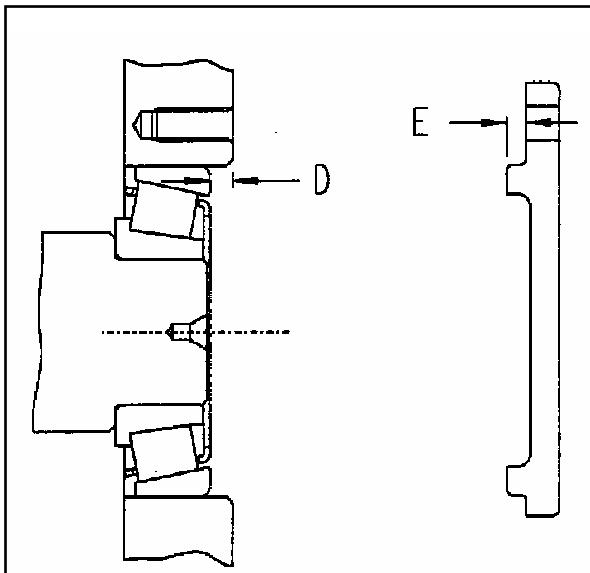

Figure B24 - Dimensions Required for Shimming Gear Shaft Bearings
10. Position shims in casing half (item 4) and fit remaining cup of differential bearing on top of shims. Ensure bearing is fully abutted.
11. Suitably support the axle casing half (item 3) such that the joint face is uppermost.
12. Position differential assembly (item 7), intermediate shaft assembly (item 6) and input shaft assembly (item 5) into the casing half, locating on their appropriate bearing cups.
13. Apply jointing compound (Loctite 574) to the joint face of the casing half. Ensure location dowels (item 34) are fitted.
15. Close casing halves using setscrews (item 1) with washers (item 2) and tighten to 4.7 Kgm.
16. Fit cups of input and intermediate shaft bearings (items 12 & 15) ensuring they are aligned with their already assembled cones and are fully abutted.
17. Determine shim pack thickness for both input shaft and intermediate shaft bearings by ascertaining dimensions D & E (see figure B24) for each position.
18. Calculate the required shim pack thickness (F) = (D - E) for each position. Select actual shims to give a pack thickness between (F) and (F - 0.05mm). This gives optimum clearances for bearings.
19. Position shims (item 11) on bearing cups. Apply sealing compound to mating face and fit bearing covers (item 10) using setscrews (item 9) with washers (item 8) and tighten to 2.3 Kgm.